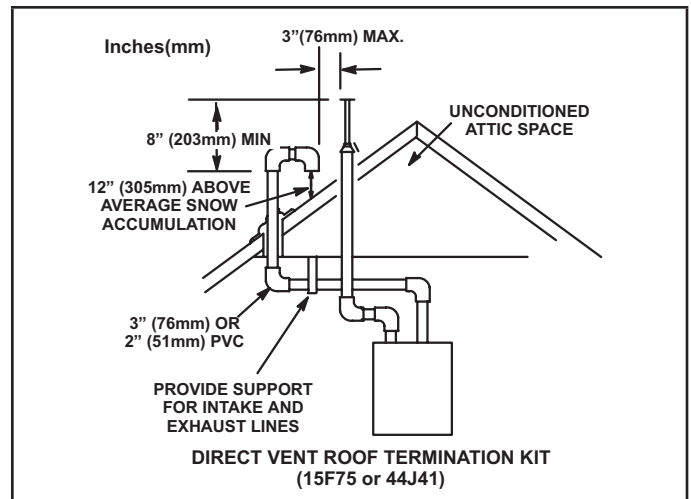

FIGURE 36
Intake and exhaust pipes may be routed either horizontally through an outside wall or vertically through the roof. In attic or closet installations, vertical termination through the roof is preferred. "FIGURE 36" through "FIGURE 43" show typical terminations.
- 3 - On roof terminations, the intake piping should terminate straight down using two 90° elbows (See "FIGURE 36").